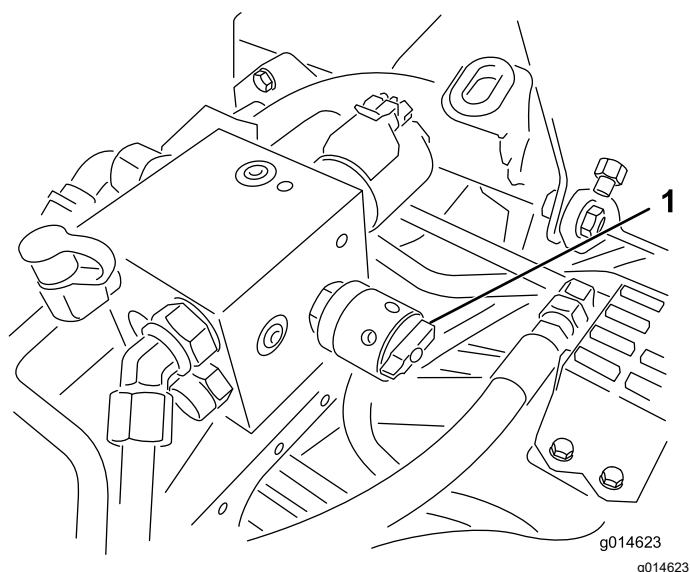

Figure 59
6. Rotate the reel-speed control to setting 1 (Figure 59).
4. Adjust the reel speed by rotating the knob (Figure 59) until the indicator arrows are in line with the number you determined in step 3.